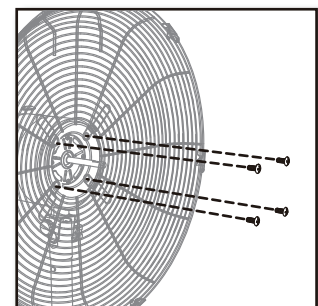

Figure 9
11. To attach the rear grill to the motor housing partially install the four grill mounting screws. Tighten all four screws. Figure 9.